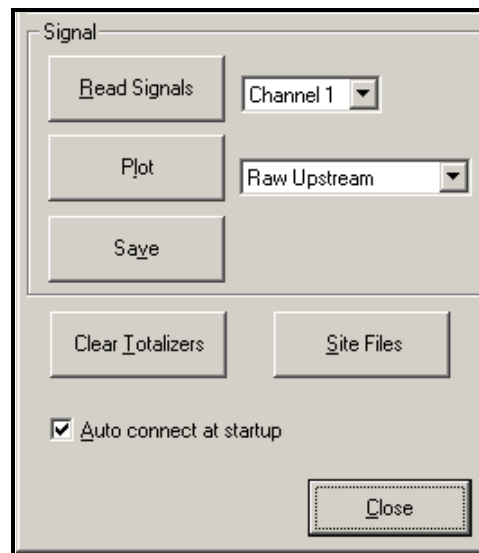

Figure 7: Active Signal Options
- To read a signal from the meter, click on the **[Read Signals]** button. (If the meter is a multi-channel instrument, open the Channel drop-down menu and click on the desired channel.) After a moment, the *Properties* window appears similar to Figure 7.